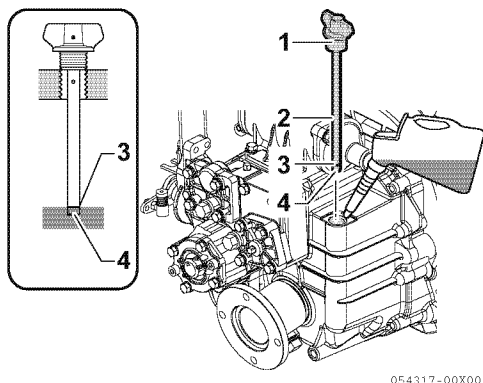

Figure 7
2. Remove the filler cap (**Figure 7, (1)**) at the top of the housing.
3. Remove dipstick (**Figure 7, (2)**) and wipe with clean cloth.
4. Re- insert the dipstick without screw in. See the illustration (**Figure 7**).
5. Remove dipstick. The oil level should be between upper (**Figure 7, (3)**) and lower (**Figure 7, (4)**) lines on the dipstick.
3. Fill with oil to the upper limit on the dipstick (**Figure 7, (3)**). See *Marine Gear Oil Specifications* on page 47.